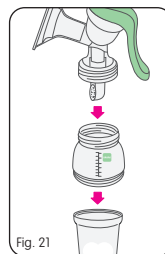

Fig. 21
- Remove the Easy Start base with its silicone valve and screw the Storage Solution on in its place. This unit can now be screwed onto the pump. All sizes of Easy Start bottle can be used in this way (Fig. 21).